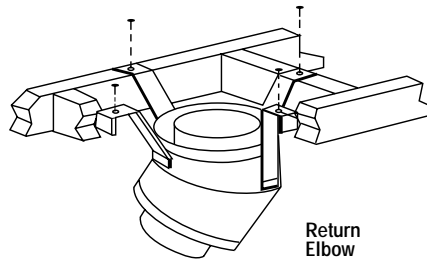

Figure 39
**Step 5.** Secure support straps to framing members by nailing under tension in sheer (Figure 39).